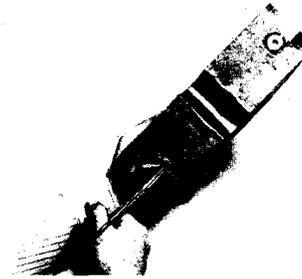

Figure 21 — LOCK-Tape Application to End Plate Half
9.02 When "C" cement becomes tacky, remove protective backing and apply the LOCK-Tape, white side down and without stretching tape, to each end plate half, following the contour of the cables holes. Square cut the tape away from the bolt hole area just beyond metal insert. (Fig. 21).